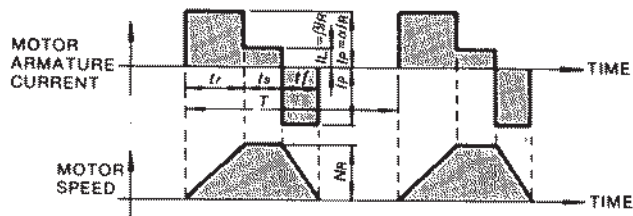

Fig. 4.3 Timing Chart of Motor Armature Current and Speed
- When the motor repeats rated-speed operation and being at standstill (Fig. 4.3).